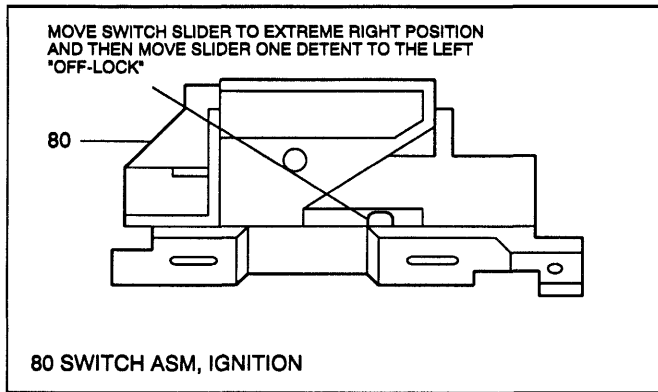

Figure 29 - Adjusting Ignition Switch
1. Lock cylinder (20) to "OFF-LOCK" position.
NOTICE: Install ignition switch (80) to jacket (73) with switch in "OFF-LOCK" position. (See Figure 29) New ignition switch will be pinned in "OFF-LOCK" position. Remove plastic pin after switch is assembled to column. Failure to do so may cause switch damage.
- Ignition switch assembly (80). (See Figure 29)
- 2. Ignition switch assembly (80) and mounting stud (81).